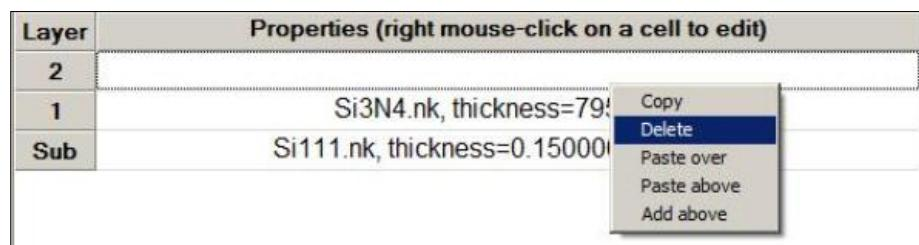

Fig. 121. Layer editing menu
- Right click on any layer to bring up the menu shown in Fig. 121, then select *Add Above*. An empty layer (blank row) appears above the current layer.